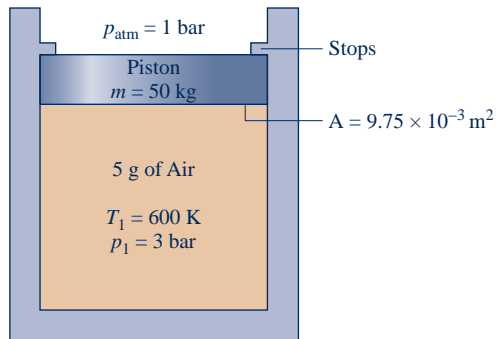

Fig. P3.130
3.130 As shown in Fig. P3.130, a piston–cylinder assembly contains 5 g of air holding the piston against the stops. The air, initially at 3 bar, 600 K, is slowly cooled until the piston just begins to move downward in the cylinder. The air behaves as an ideal gas, $g = 9.81$ m/s², and friction is negligible. Sketch the process of the air on a p – V diagram labeled with the temperature and pressure at the end states. Also determine the heat transfer, in kJ, between the air and its surroundings.